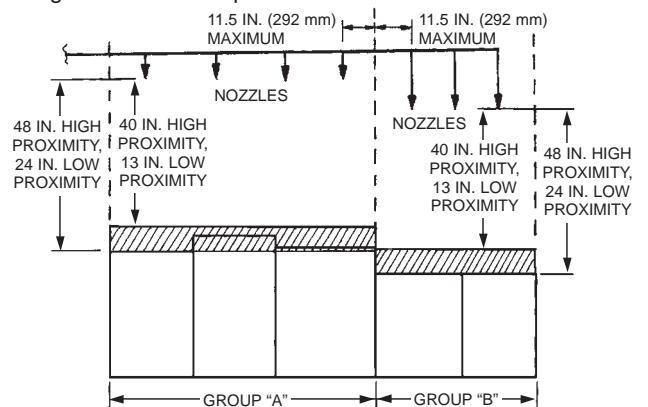

FIGURE 5b
8. On protected appliances, all hazard surfaces located in a group must be within 40-48 in. (1 m-1.2 m) for high proximity or 13-24 in. (330-610 mm) for low proximity from the nozzle(s). Once that dimension is exceeded, a new group must be started. See Figure 5b.